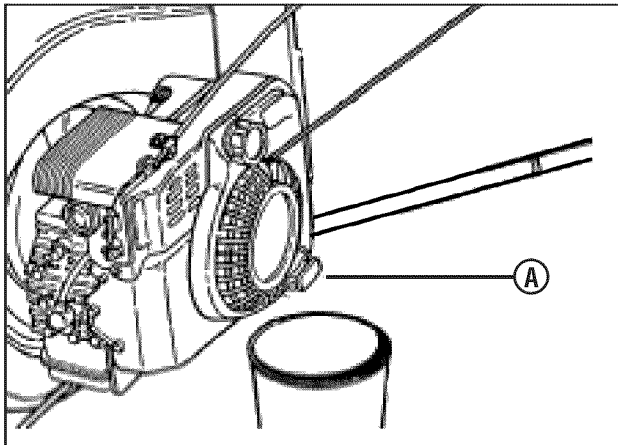

Figure 15: Draining the engine oil
2. Remove the dipstick (**A, Figure 15**), then turn the mower on its side. Allow the oil to drain from the oil fill tube into an appropriate container. Dispose of used oil properly.